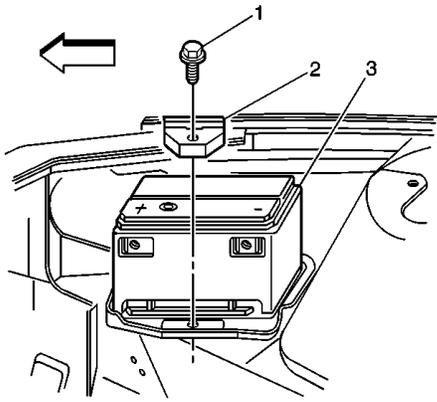

Fig. 3 Battery hold down retainer removal
7. Remove battery hold down retainer bolt and retainer, **Fig. 3**.
3. Install battery hold down retainer and bolt, **Fig. 3**. **Torque** bolt to 13 ft. lbs.